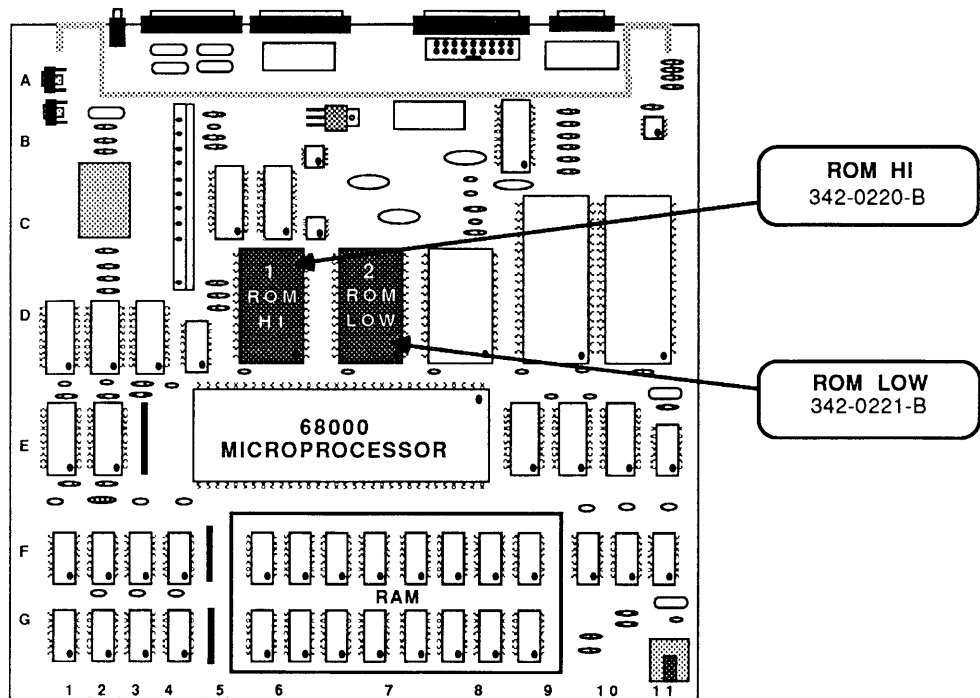

FIGURE 9
3. Remove the Macintosh logic board. Referring to Figure 9, locate the two ROMs and verify that the old ROMs are installed.